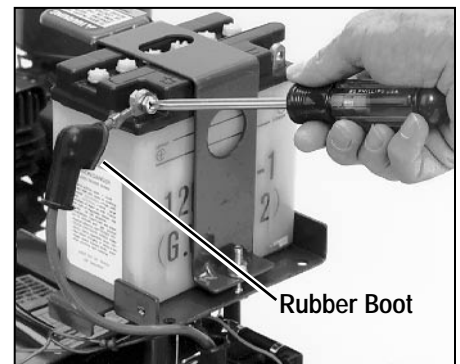

Figure 2-18: Attach positive (+) battery cable. Cover connection with rubber boot.
1. Locate the positive battery cable, which is connected to the starter solenoid on the left-side of the battery post (a rubber boot covers the connection). A second rubber boot is loosely installed on the cable. Using the small screw and nut from the hardware bag, connect the loose end of the cable to the positive (+) post on the battery. See Figure 2-18.